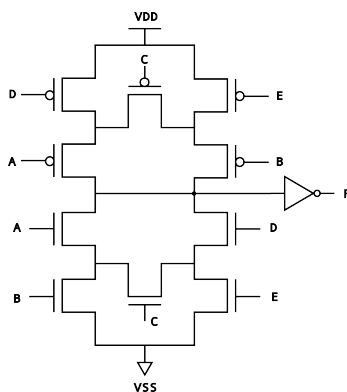

Figure 5: CMOS circuit
4. What is the function, F implemented by the circuit in Figure 5?